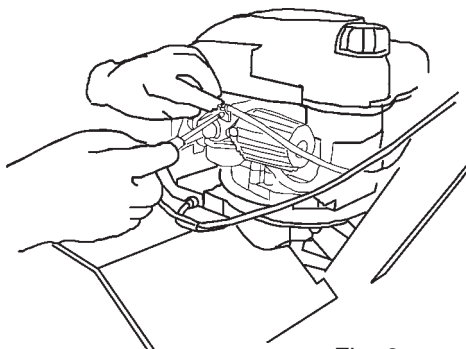

Fig. 3
- Connect the accelerator wire (fig.2) to the engine and fix the sheath (fig.3)